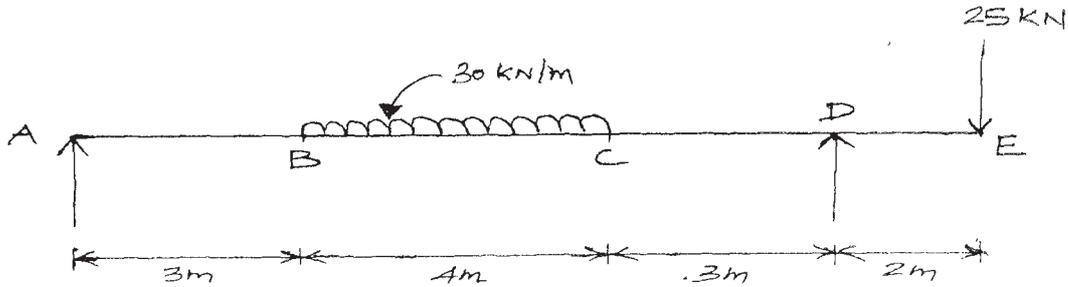

Fig. 4
13. (a) Draw the shear force and bending moment diagram for the beam shown in Fig. 4 giving the point of contraflexure, location and magnitude of maximum bending moment.